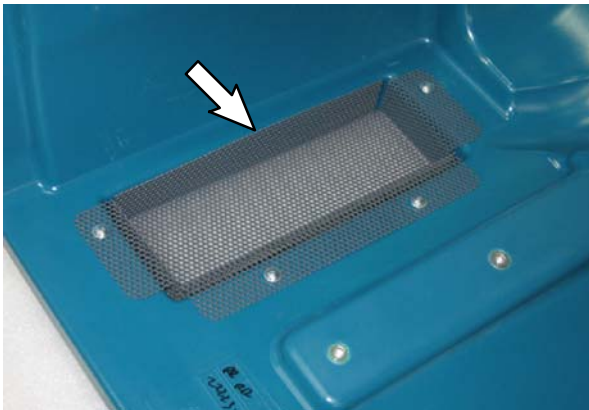

FIG. 88
109. Use four pan screws (3) and four flat washers (4) to install the engine shroud panel (22) into the left rear cover (79). (Fig. 88)